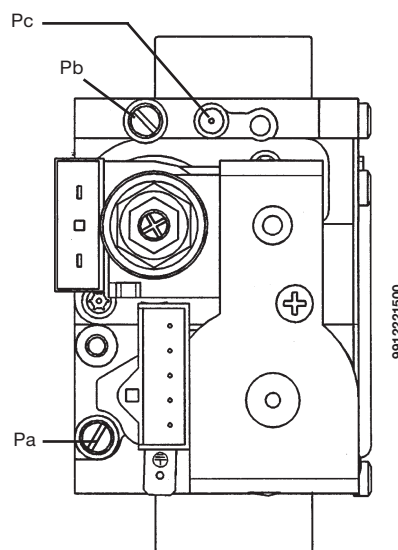

Figure 11
A Qualified Service Engineer may adapt this boiler to operate with natural gas (**G. 20**) or with liquid gas (**G. 31**). The procedure for calibrating the pressure regulator may vary according to the type of gas valve fitted (honeywell or SIT; see figure 11).
- connect the positive pressure test point of a differential (possibly water-operated) manometer to the gas valve pressure test point (**Pb**) (Figure 11); connect, for sealed chamber models only, the negative pressure test point of the manometer to a "T" fitting in order to join the boiler adjusting outlet, the gas valve adjusting outlet (**Pc**) and the manometer. (The same measurement can be carried out by connecting the manometer to the pressure test point (**Pb**) after removing the sealed chamber front panel); If you measure the pressure of burners in a different way you may obtain an altered result in that the low pressure created in the sealed chamber by the fan would not be taken into account.
- check that boiler feeding dynamic pressure, as measured at the inlet gas valve pressure test point (**Pa**) (Figure 11) is correct (37 mbar for propane gas **G.31**, 20 mbar for natural gas **G20**);